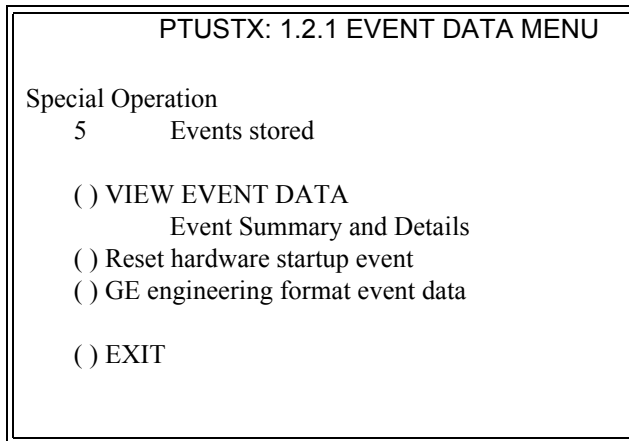

FIGURE 3-2. EVENT DATA MENU
9. If one or more events have been stored, a screen, as shown in either Figure 3-2 or 3-3, will be displayed.
10. If Figure 3-2 is displayed, select "reset hardware startup event" with the cursor and press [ENTER].